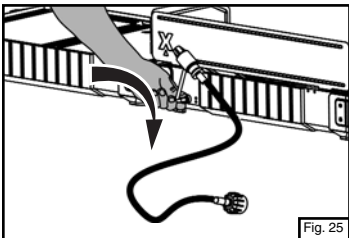

Fig. 25
3. The regulator uses a threaded fitting to attach to the stove. It is necessary to hold the stove to make sure the fitting is seated. Align the regulator to the fuel tube on the back of the stove and push on. Screw on the outer threaded sleeve in a clockwise direction until hand tight (Fig. 25).